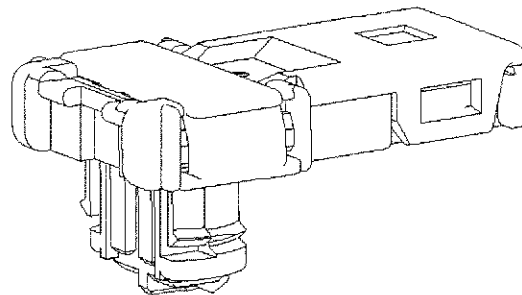

Fig.20
(3) Check if the locking button is placed on the position like Fig.20.